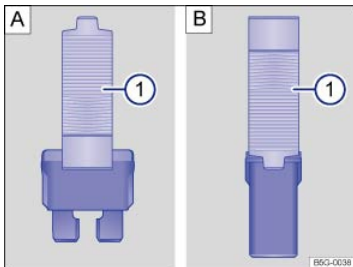

Fig. 200 Removing or installing a blade fuse with the plastic tweezers: : Blade fuse. : JCASE® fuse.
- Depending on the type of fuse, slide the tweezers ⇒ *Fig. 200* **A** ① or ⇒ *Fig. 200* **B** ① onto the fuse from the side.
- If the fuse is blown, replace the fuse with a new fuse of the *same* amperage (same color and same imprint) and *same* size ⇒ ①.